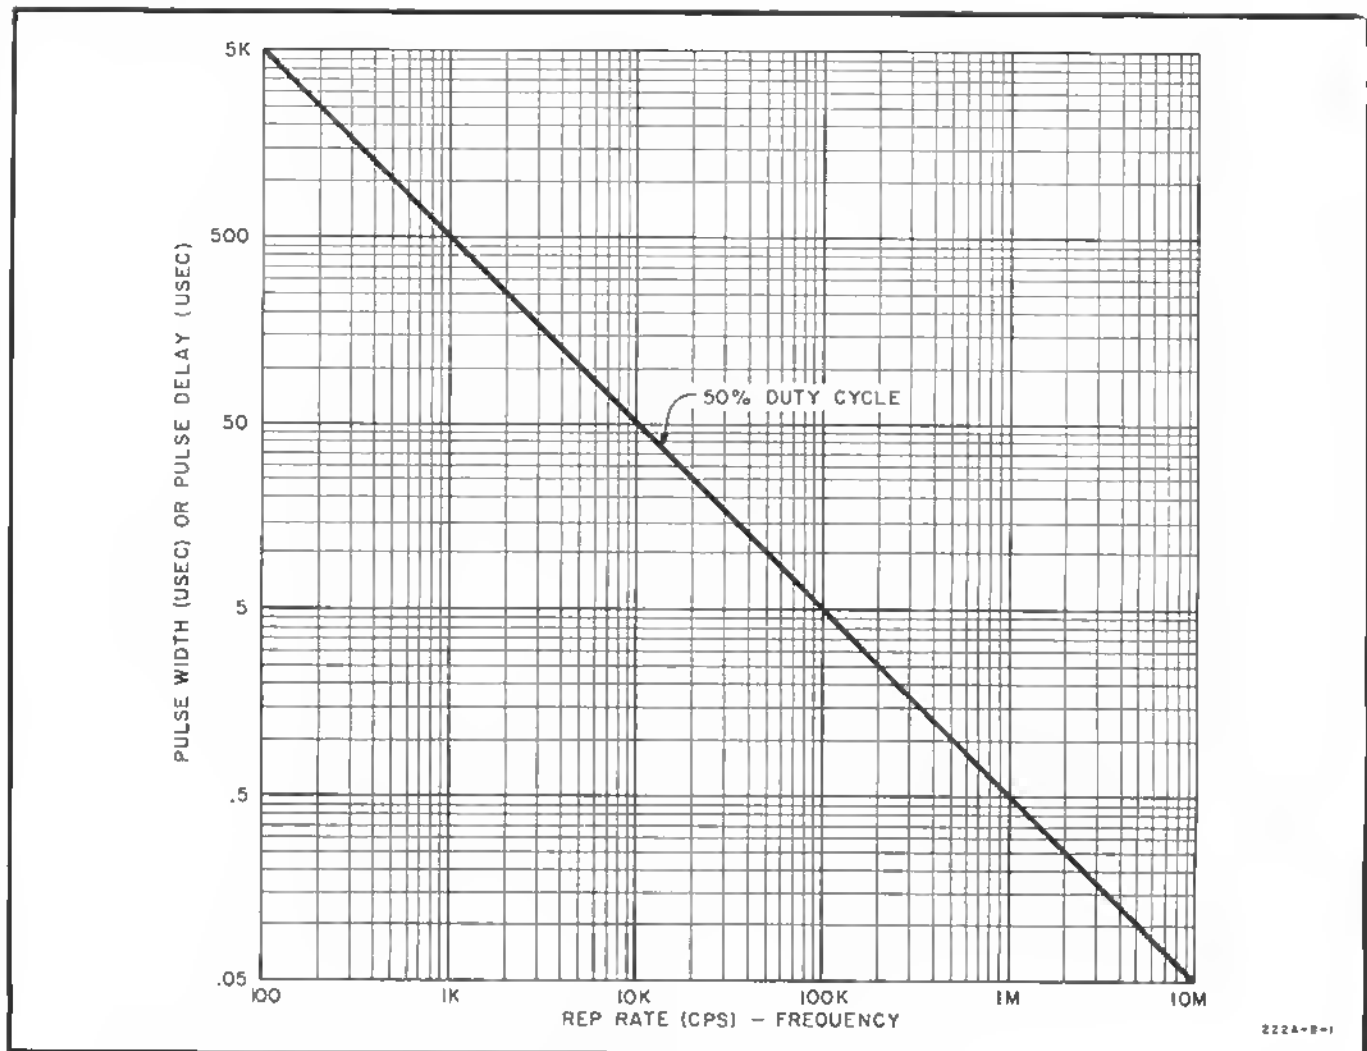

Figure 3-3. 50% Duty Cycle Limit
Basically, the only indication of having exceeded the duty cycle limits is that the output frequency will go to a sub-multiple of the REP RATE setting on the front panel. It should be noted that the frequency will react in the same way if a delay of more than one half the period is attempted. The same limits on duty cycle apply for operation with external triggering or internal repetition rate generation. The duty cycle at repetition rates of less than 100 cps is limited by the maximum PULSE WIDTH setting of 5 milliseconds. Figure 3-3 provides a graph which gives the maximum width vs frequency settings that may be selected without going over 50% duty cycle. Figure 3-3 also shows the relationship between duty cycle and pulse delay, i. e. the maximum frequency vs delay settings that may be used. The following examples illustrate the use of Figure 3-3.
(in time) of the output pulse with respect to the TRIGGER OUTPUT signal. (Note limits given in Figure 3-3.)
d. Select PULSE WIDTH range and adjust VERNIER. (Note limits given in Figure 3-3.)
c. Set PULSE DELAY selector and adjust VERNIER for desired delay. This setting provides for a delay (in time) of the output pulse with respect to the TRIGGER OUTPUT signal. (Note limits given in Figure 3-3.)